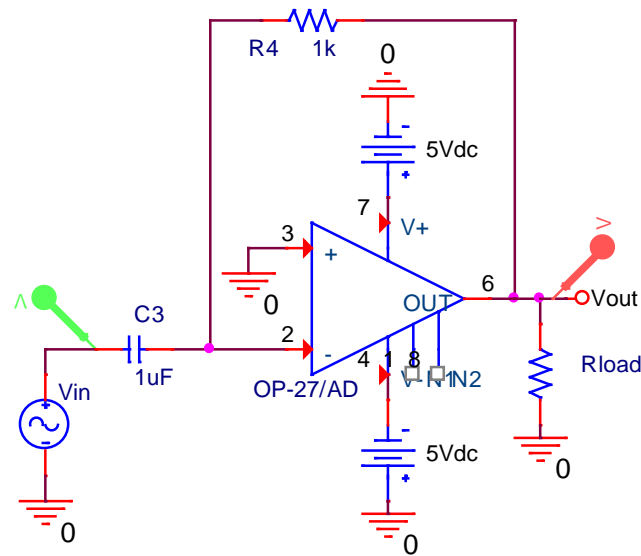

Figure C-5. The probes indicate the input and output points.
- Remove the feedback capacitor, C2. Replace R1 with an input capacitor, C3=1 μ F. Replace the feedback resistor with a 1k resistor, labeled R4 in this diagram. Your circuit should now look like Figure C-5.